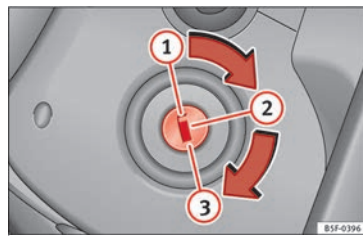

Fig. 148 Ignition key positions.
In this position » **Fig. 148**, the ignition and the engine are OFF and the steering may be locked.
- Turn the ignition key to position  **Fig. 148** . The warning lamp  will light for engine pre-heating.
- Turn the ignition key to position » **Fig. 148**